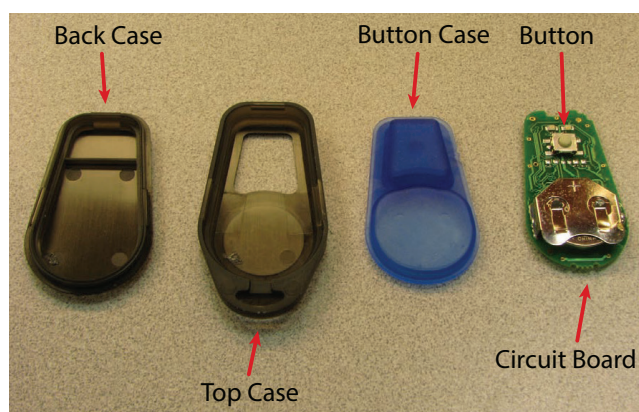

Figure 2: Part Layout
2. Pull the inner assembly out and remove the button case from the circuit board. See Figure 2 for reference.